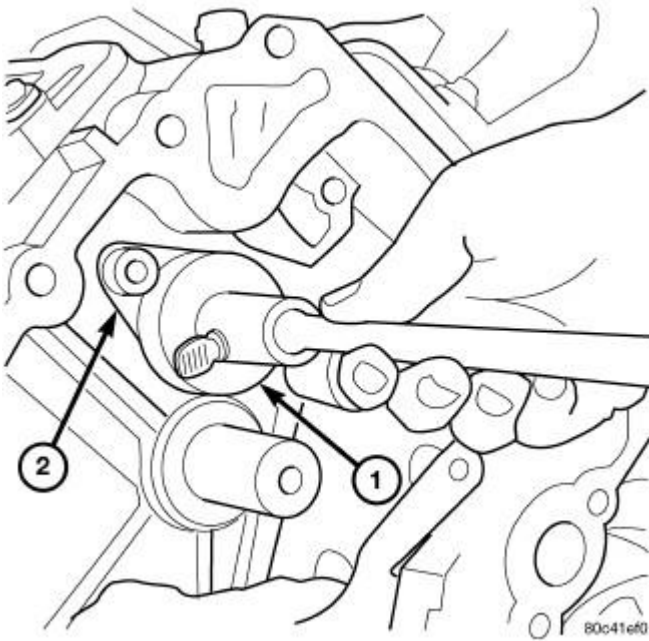

Fig. 93: Removing/Installing Counterbalance Shaft From Engine
2. Using the Counterbalance Shaft Remover/Installer (special tool #8641, Remover/Installer) (1), carefully install counterbalance shaft into engine. Refer to **Fig. 93**.